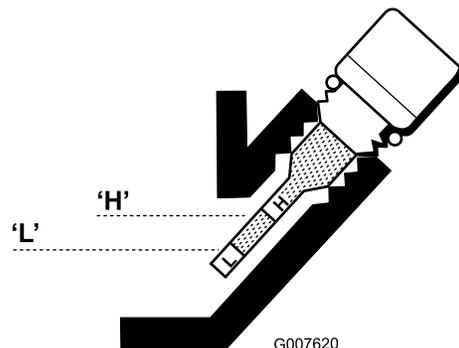

Figure 30
6. If the level is low, add only enough oil to raise the level until it is between the "H" and "L" marks on the dipstick (Figure 30). Check the level of the oil.